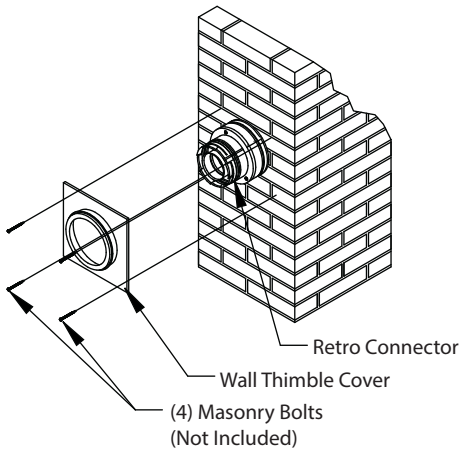
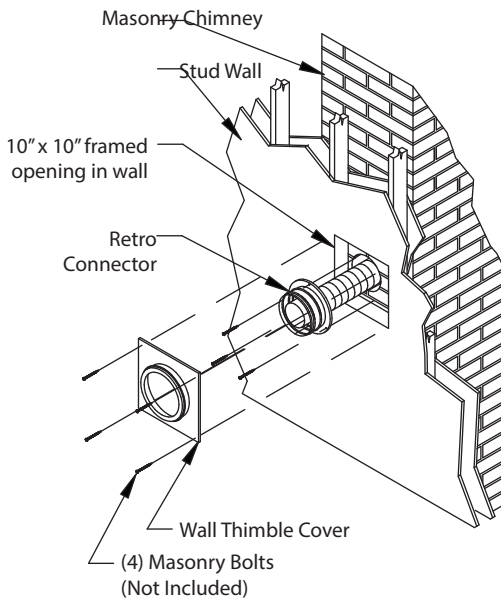

Figure 10
Figure 11
Refer to Figure 11.
Step 9. Slide the Wall Thimble Cover (940) over the Retro Connector and secure with masonry bolts. **(Figure 10)** If you have a framed wall in front of the masonry, use wood screws to mount the Wall Thimble Cover to the framed wall, over the Retro Connector and the 10" square framed opening. **(Figure 11)** If needed, add a section of direct vent pipe to the Retro Connector in order to extend through the opening in the Wall Thimble Cover.